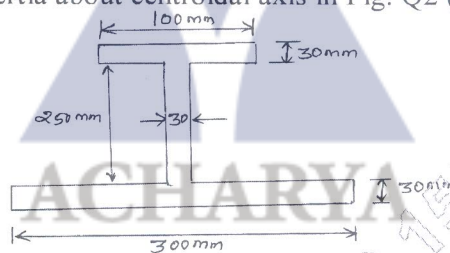

Fig. Q2 (b)
b. Find the moment of inertia about centroidal axis in Fig. Q2 (b). (14 Marks)